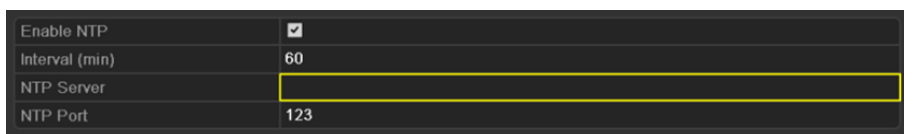

Figure 11-11 NTP Settings Interface
Step 2 Select the **NTP** tab to enter the NTP Settings interface, as shown in Figure 11-11.